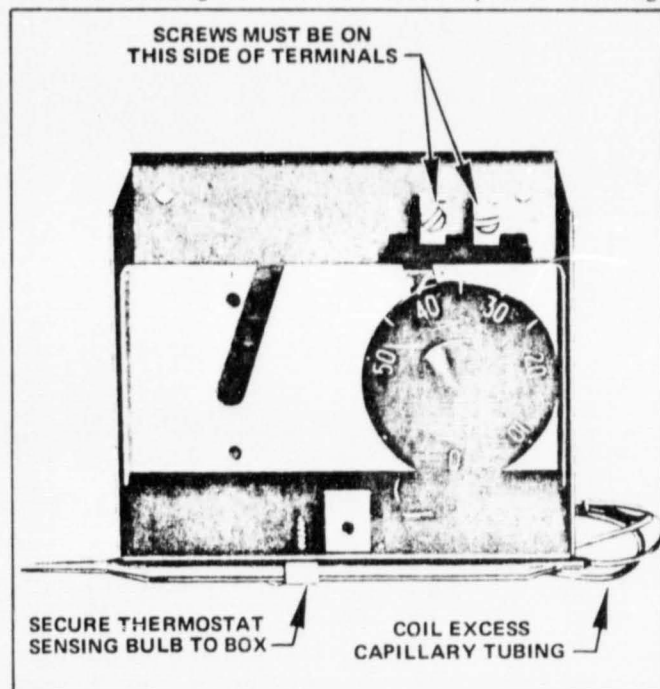

FIGURE 2
If the outdoor thermostat(s) is installed in outside location, the mounting box should be used to house thermostat(s). Before thermostat(s) are installed in thermostat box, remove the (2) screws on thermostat and install on opposite side of terminals. This must be done so wiring can be connected to terminals when thermostat is mounted in thermostat box. See Figure 2.